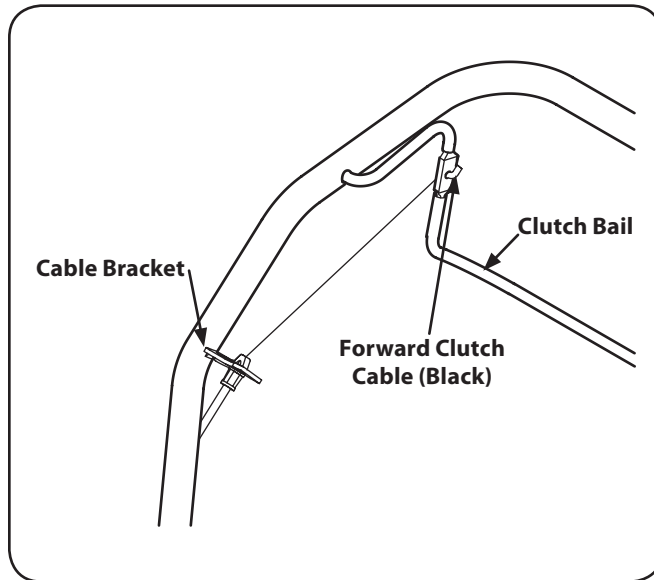

Figure 3-4
1. Carefully unwrap the forward clutch cable (Black) from its shipping position. Pull the cable up through the bottom hole of the cable bracket and push the cable connector up through the hole until the groove in the connector snaps into place. See Fig. 3-4.
2. Place the Z-connector into the hole in the forward clutch bail. See Fig. 3-4.